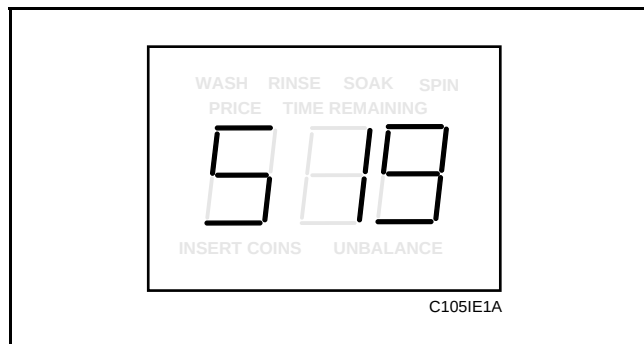

Figure 10
2. While pressing and holding the PERM PRESS keypad with one hand, press the COLD keypad with the other hand. Programmable option number one, “Slg”, will appear in the VFD. See **Figure 10**.